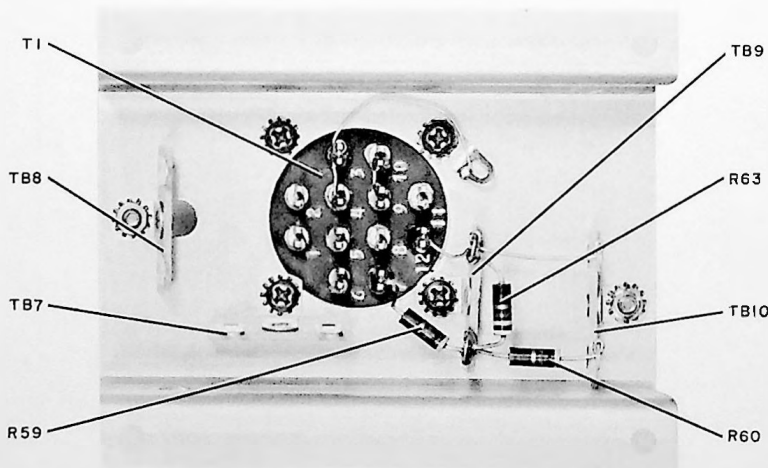

Figure 2-6. Broadcast Console 212F-2, Subchassis
b. Refer to figure 2-6. Unsolder the two blue wires from terminal board TB8, and remove TB8 from the subchassis.
b. Refer to figure 2-6. Unsolder the blue and orange wires from terminal board TB7, and remove TB7 from the subchassis.